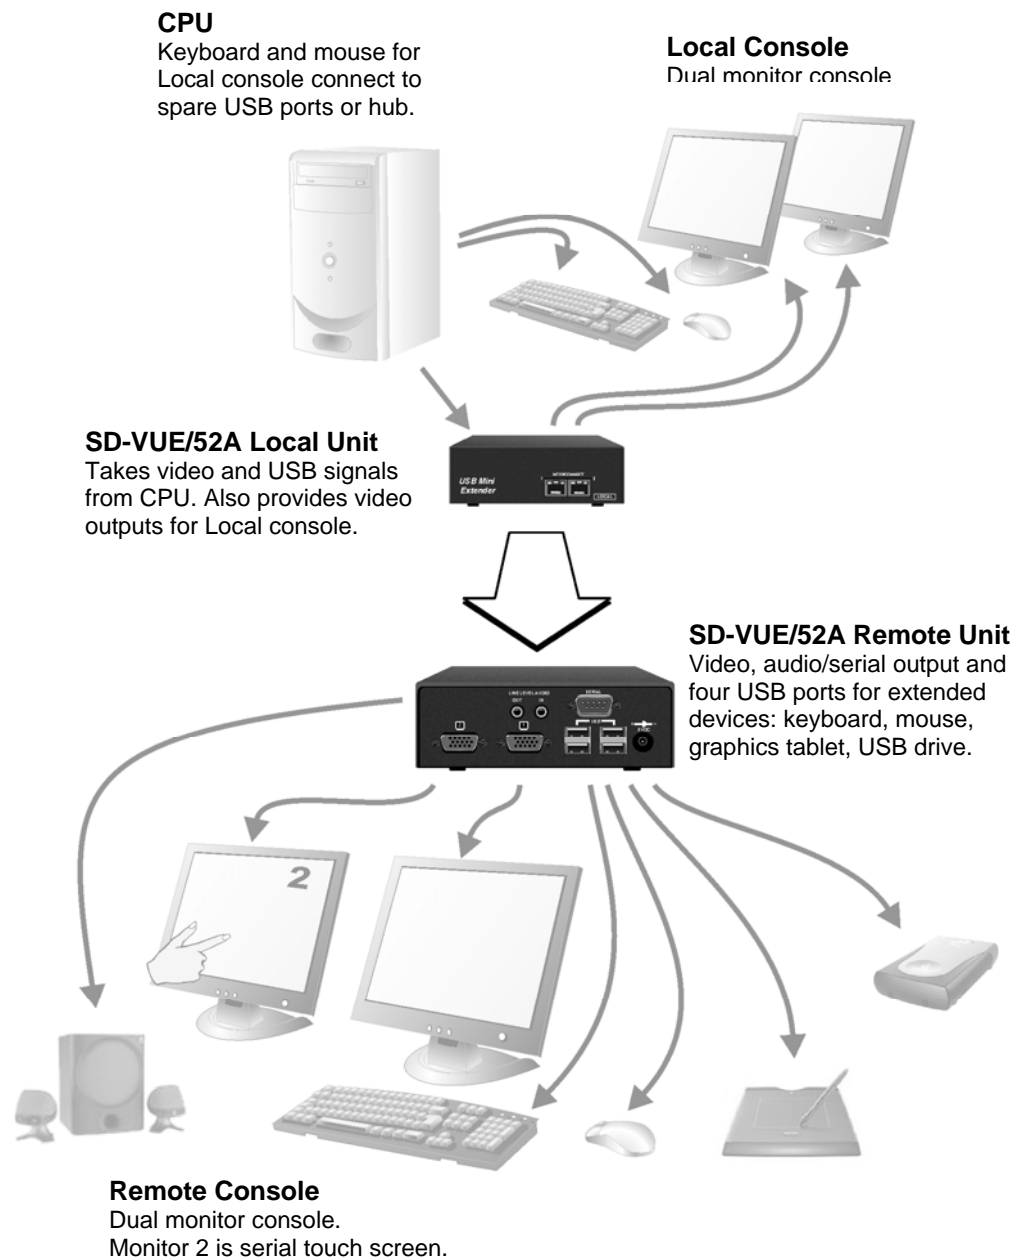

Figure 7 Dual-monitor consoles with serial and audio extension
- Dual-monitor consoles with serial and audio extension (Figure 7). Analog audio extended without USB conversion using Interconnect 2 and monitor 2 at remote console is a serial touch screen. Uses SD-VUE/52A.